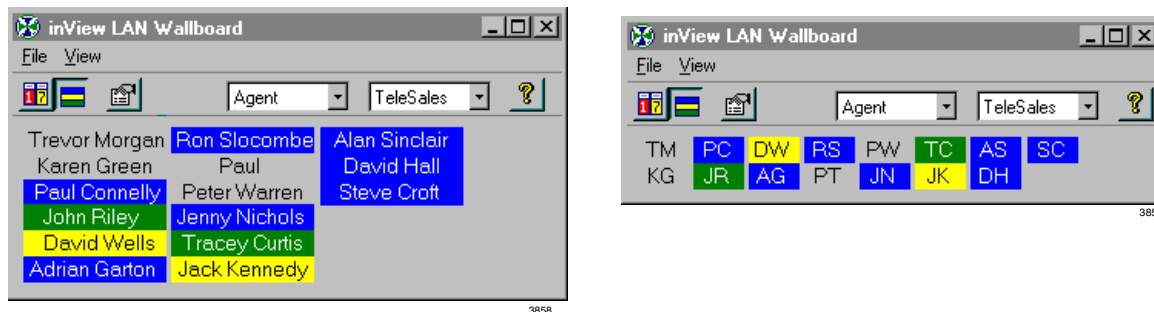

Figure 52 Sample inView Agent Status Display (Long Names and Short Names)
- ♦ Status view shows the status of individual agents with either long or short names (see Figure 52). The status is presented using a colored background to represent each agent's status.